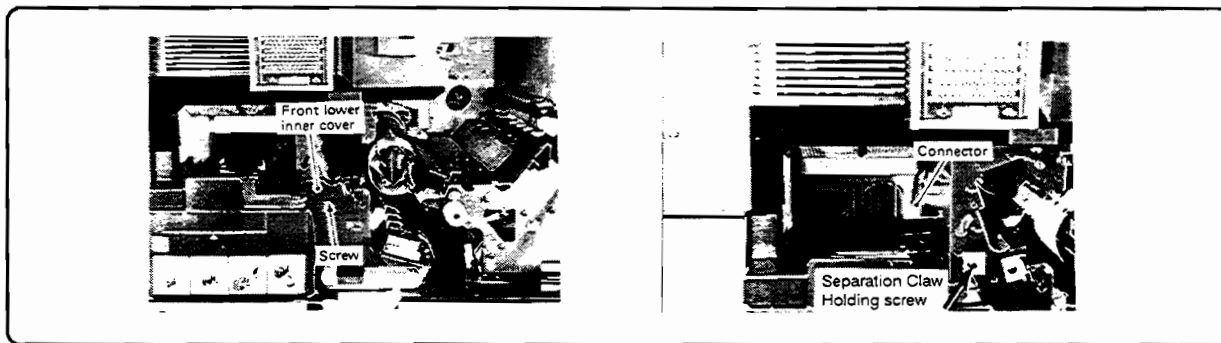

Figure 6-107. Drum Separation Claws
3. Remove the screw and remove the single screw holding the small black plastic cover ("front lower inner cover" - Figure 6-107).